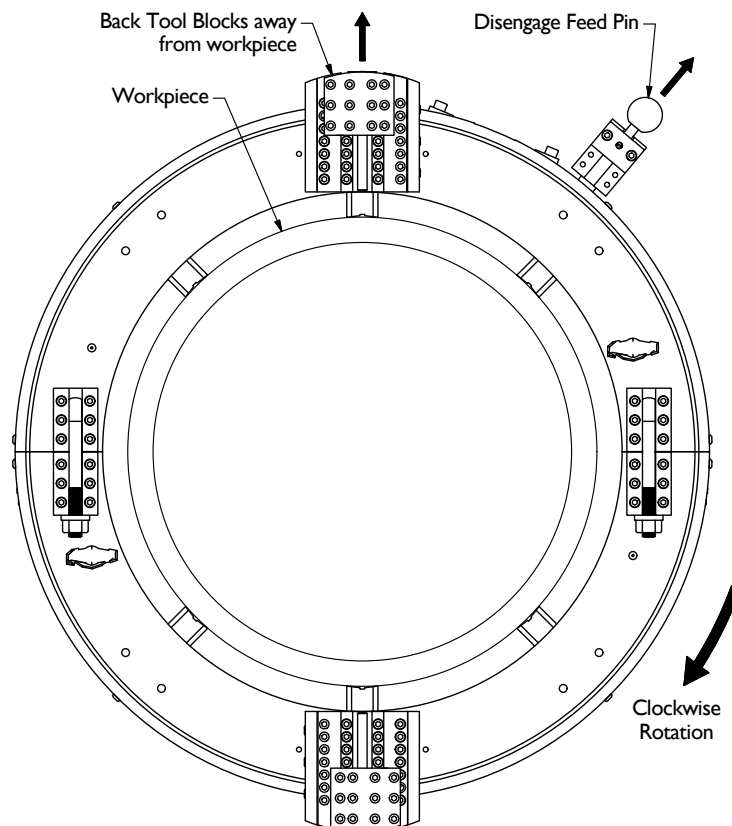

Figure 9 - Back Tool Blocks away from Workpiece and Disengage Feed Pin
10. Use a starwheel wrench to back both tool blocks away from the workpiece. Make sure the feed pin is disengaged. See Figure 9.